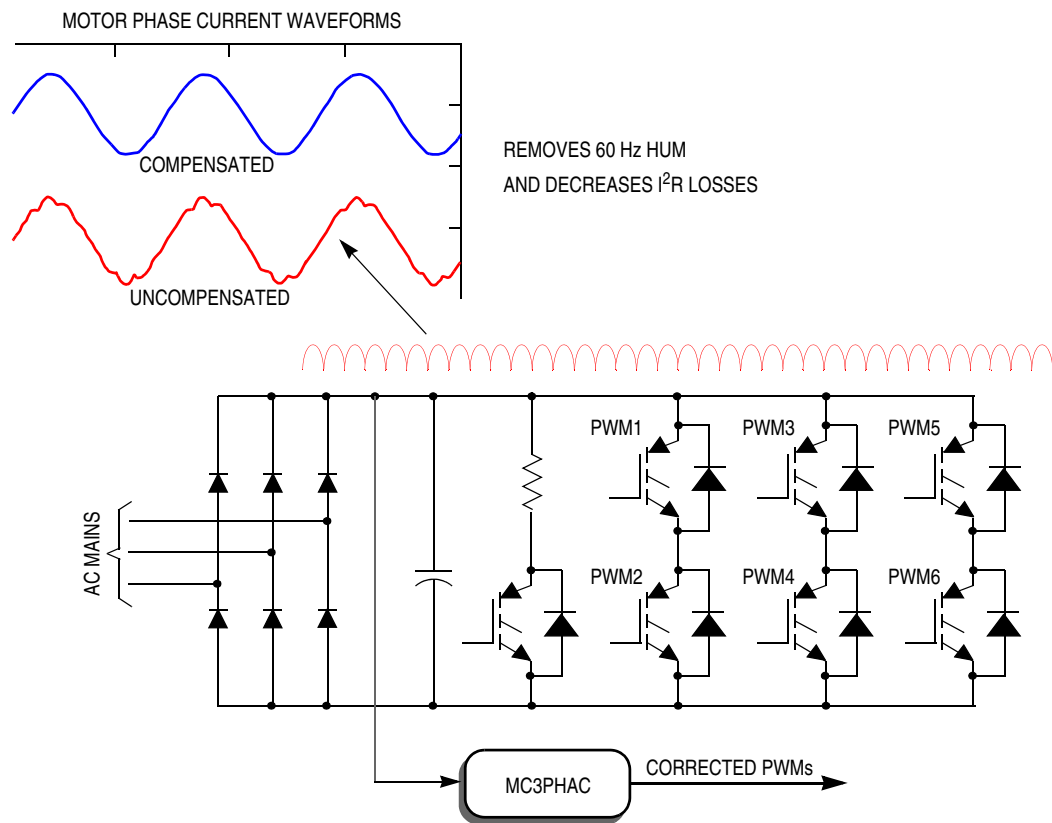

**Figure 4. Dynamic Bus Ripple Cancellation**
**Dynamic Bus Ripple Cancellation** — The dc bus voltage is sensed by the MC3PHAC, and any deviations from a predetermined norm (3.5 V on the dc bus input pin) result in corrections to the PWM values to counteract the effect of the bus voltage changes on the motor current. The frequency of this calculation is sufficiently high to permit compensation for line frequency ripple, as well as slower bus voltage changes resulting from regeneration or brown out conditions. See Figure 4.